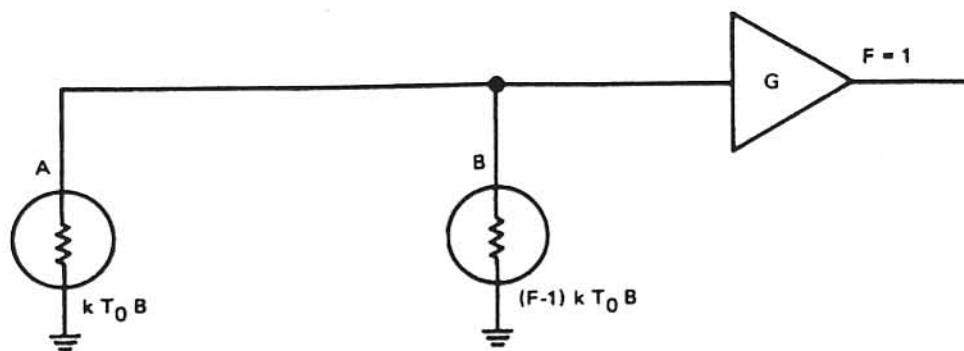
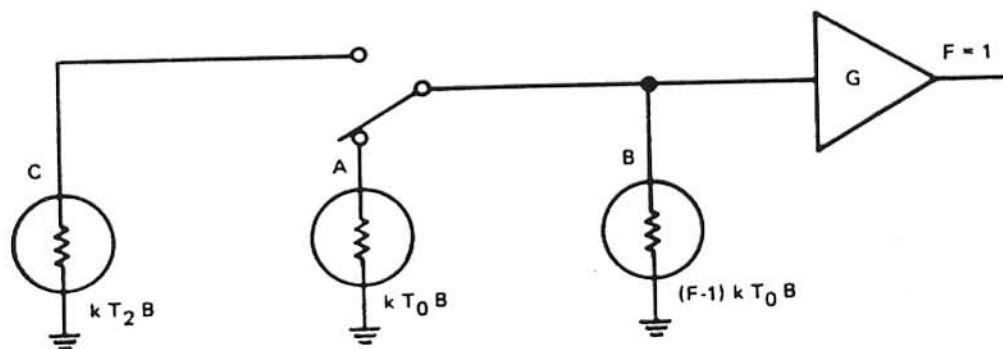

FIGURE 4-1. EQUIVALENT NOISE REPRESENTATION OF A NOISY NETWORK
FIGURE 4-2. EQUIVALENT REPRESENTATION OF NOISE FIGURE MEASUREMENT SETUP
Figure 4-1 is a representation of Equation 4-5. Noise source A is the input termination while noise source B is a fictitious source representing network contribution to the noise output with reference to the input.
4-7. Figure 4-1 can be modified as indicated in Figure 4-2. A switch has been added so that the original input termination (A) can be disconnected, and the network input terminated in a second source (C) at temperature  $T_2$  (the temperature of the noise generator).